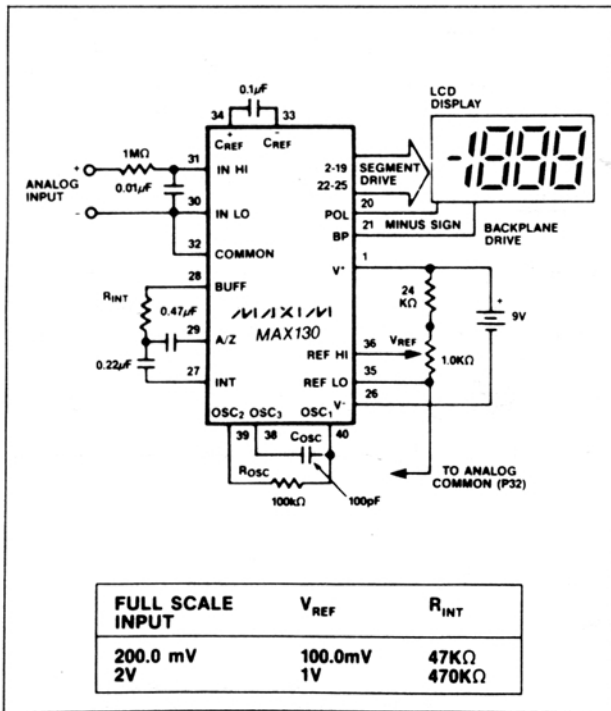
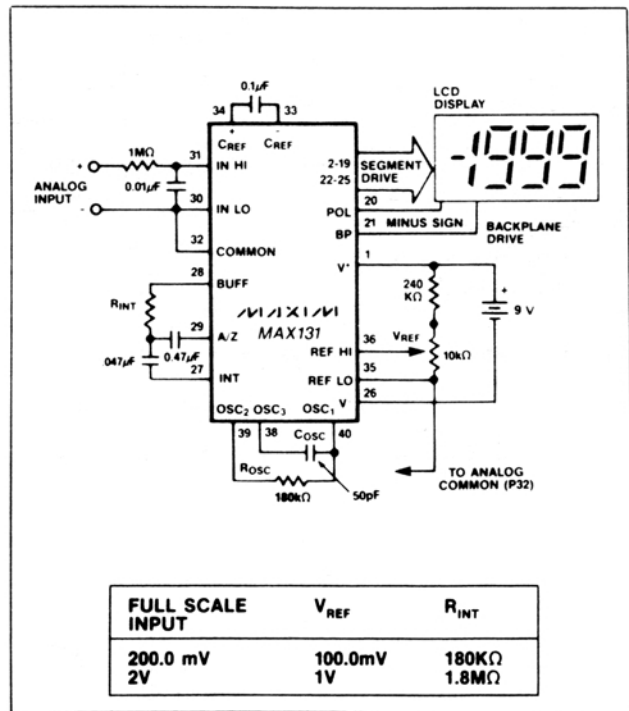

Figure 1. Maxim MAX130 Typical Operating Circuit, 3 Conversions per Second
Figure 2. Maxim MAX131 Typical Operating Circuit, 3 Conversions per Second
( $V^+ = 9\text{V}$ ,  $T_A = 25^\circ\text{C}$ ,  $f_{\text{CLOCK}} = 48\text{kHz}$ ; test circuit - Figure 1; unless noted)
(V\* = 9V, TA = 25°C, fCLOCK = 48kHz; test circuit - Figure 2; unless noted)
**Note 3:** Test condition is VIN applied between pin IN-HI and IN-LO through a 1MΩ series resistor as shown in Figures 1 and 2.
**Note 4:** 1MΩ resistor is removed in Figures 1 and 2.
Figures 1 and 2 show the basic MAX130 and MAX131 applications circuits. Note that the circuits for the MAX130 and the MAX131 use different values for the integration and oscillator components. The MAX130 can operate using the MAX131 component values, but the MAX131 will not operate using the MAX130 component values. The lower supply current device, the MAX131, must always use the higher value integrator resistor as shown in component value table in Figure 2. With a typical operating current of only 65µA, the MAX131 will operate for about 8500 hours when powered by a typical 550mAh alkaline 9V battery. The MAX130 will operate for 2200 hours with a 550mAh battery.
The MAX130/131 can easily be used with ±5V supplies. Connect V+ to +5V, V- to -5V. If the voltages to be measured are referred to ground, then connect In Lo to ground. In most cases, Ref Hi and Ref Lo should be connected to a resistive divider string between V+ and Common, as shown in the standard application circuits of Figures 1 and 2. If Common is not used to generate the reference it can either be left floating or can be connected to ground. If the MAX130/131 oscillator is driven by 5V logic, or if the MAX130/131 LCD outputs drive 5V logic, then connect the Test pin to ground. If the MAX130/131 open circuit Test voltage is above ground, then connecting Test pin to ground will set the internal digital ground to approximately ground. If, however, the open circuit Test voltage is negative, then the internal digital ground voltage will remain negative, additional V+ supply current will be drawn, and the LCD segments will continue to swing